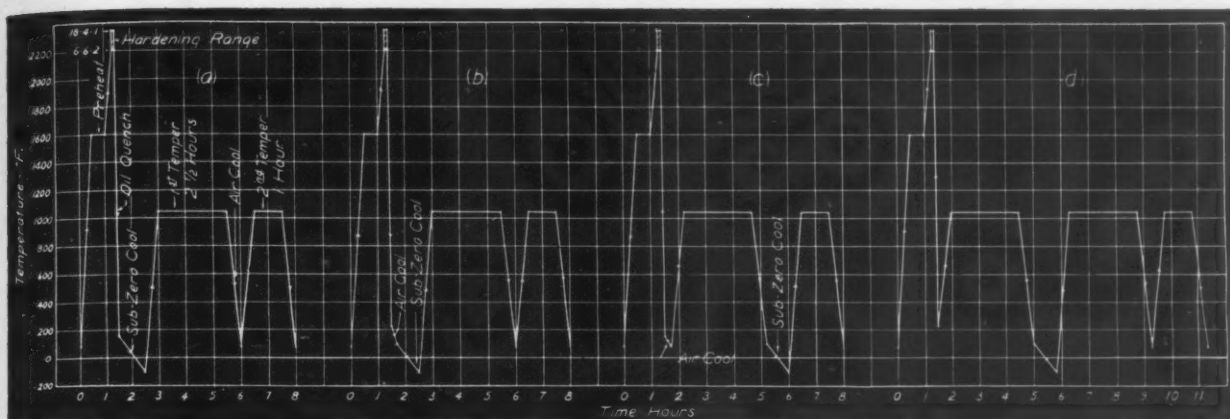

Fig. 8. Cycles in the Heat-treatment and Sub-zero Treatment of High-speed Steels
Fig. 8 illustrates several cycles for the treatment of high-speed steel. The regular salt bath technique can also be employed, the only difference being that the steel is air-cooled following the customary quench in a salt bath held at a temperature of approximately 1100 degrees F. High-speed steel, however, because of some anomalous behaviours, requires additional explanation. Cycles (a) and (b) are of equal effectiveness, and would seem most likely to produce the best results in performance of all the heat-treatments given. It should be pointed out, however, that this is not definitely established. Berlien (9)